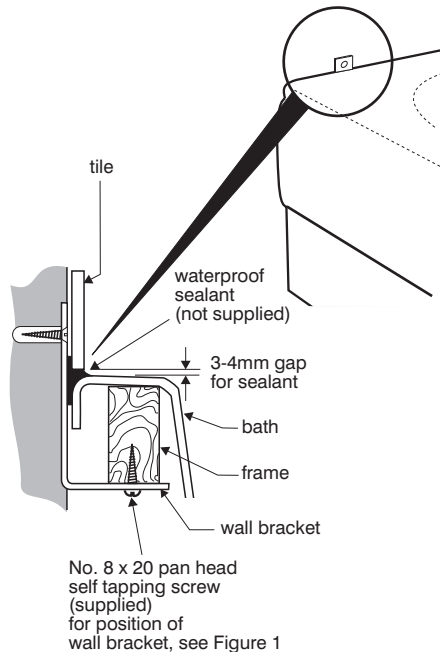

Figure 6
8. Fix the two wall fixing brackets to bath frame as indicated in Figure 6. Pilot drill holes in frame before fixing brackets.
9. Fix bath to wall (Figure 6).
12. Tile down to the height of the bath rim leaving a 3-4mm gap for waterproof sealant, see Figure 6. An extruded sealing strip can be used for the bath to wall joint as an alternative to waterproof sealant. Protect bath during tiling and uneven floors.